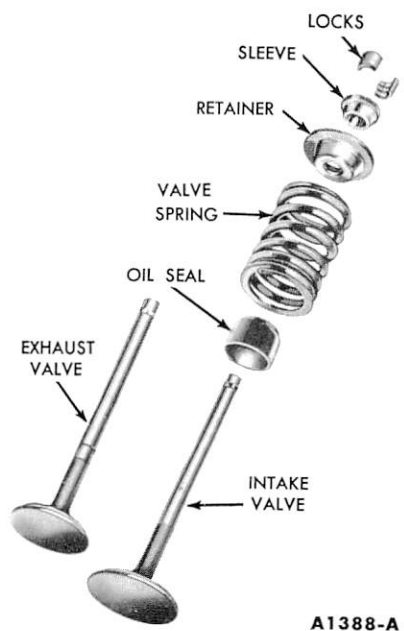

FIG. 32—Valve Assembly
2. Install each valve (Fig. 32) in the valve guide from which it was removed or to which it was fitted. Install a new stem seal on the valve.